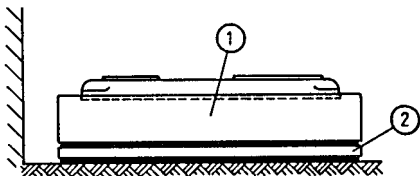

Fig. 4.6a Low-Noise Installation
A reduction in noise (Fig. 4.6a) can be achieved by isolating the pedestal (1) from the ground by means of an appropriate insulation board (2) and by using suitable bellow expansion joints between the piping and the pump. The pedestal (1) must not be secured to the ground or to the walls.